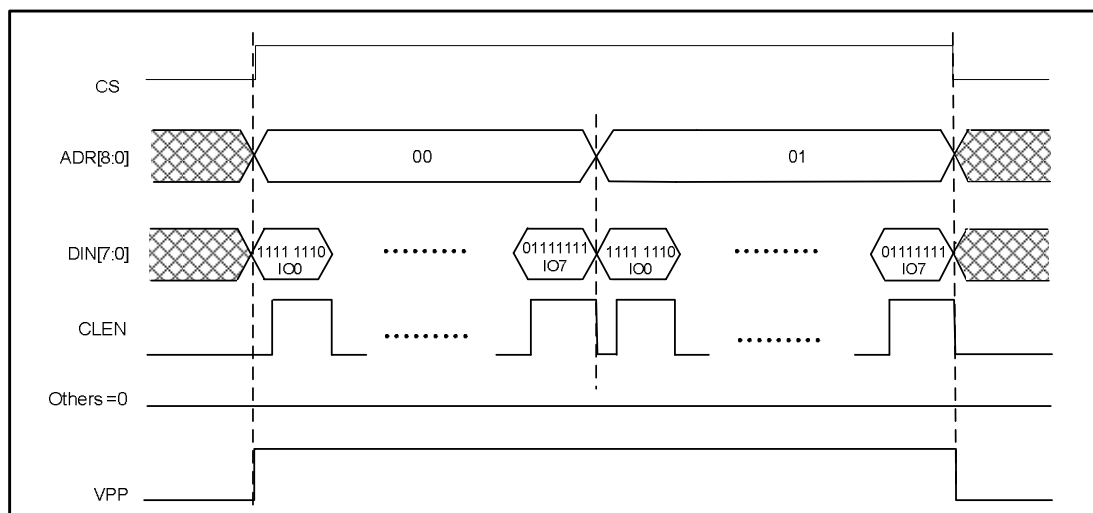

Figure 11
- 1.2. "force voltage in VPP pin", refer to Figure 11. The external high voltage supply pin (VPP)
needs to be tied to IO pad to force one low voltage (ex. 1.5V). ADR[8:0] is used to select address. There is only one of DIN[7:0] buses indicating to the corresponding IO to be pulled as logic “L” at a time and others are logic “H”. Thus it can be measured the cell current during CLEN high active period. For example of 512x8 IP shown as Figure 11, one address 00 is selected. When DIN[7:0] is 11111110, it can be measured for the cell current of IO 0 at address 00. The rest may be deduced by analogy. When DIN[7:0] is 01111111, it is for the cell current of IO 7.